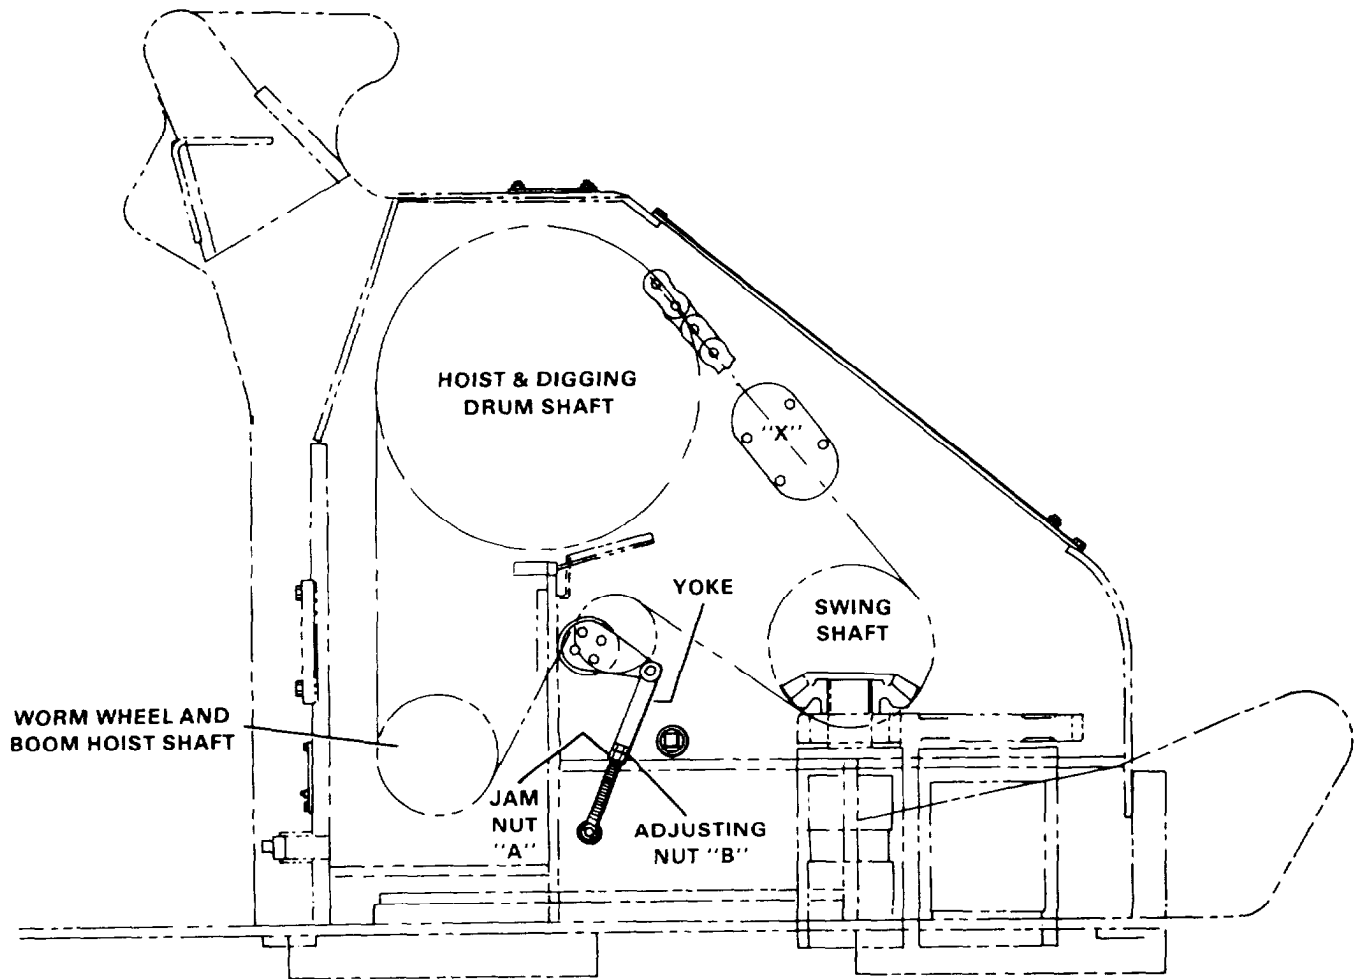

Figure 4E-1. Chain Case and Idler Shaft (2100J1389 and 2100J515F1)
1. Remove the chain case inspection plate. Loosen four idler capscrews (see Figure 4E-2).
3. Adjust the chain tension so that there is approximately 1/2 inch total midspan deflection at point "X" as indicated in Figure 4E-1. To tighten the chain, turn adjusting nut "B" to the right; to loosen turn nut in opposite direction.
4. Tighten jam nut "A" against adjusting nut "B". Tighten four idler capscrews (see Figure 4E-2).
**REMOVAL AND DISASSEMBLY.** To remove and disassemble the idler shaft, proceed as follows (see Figure 4E-2):